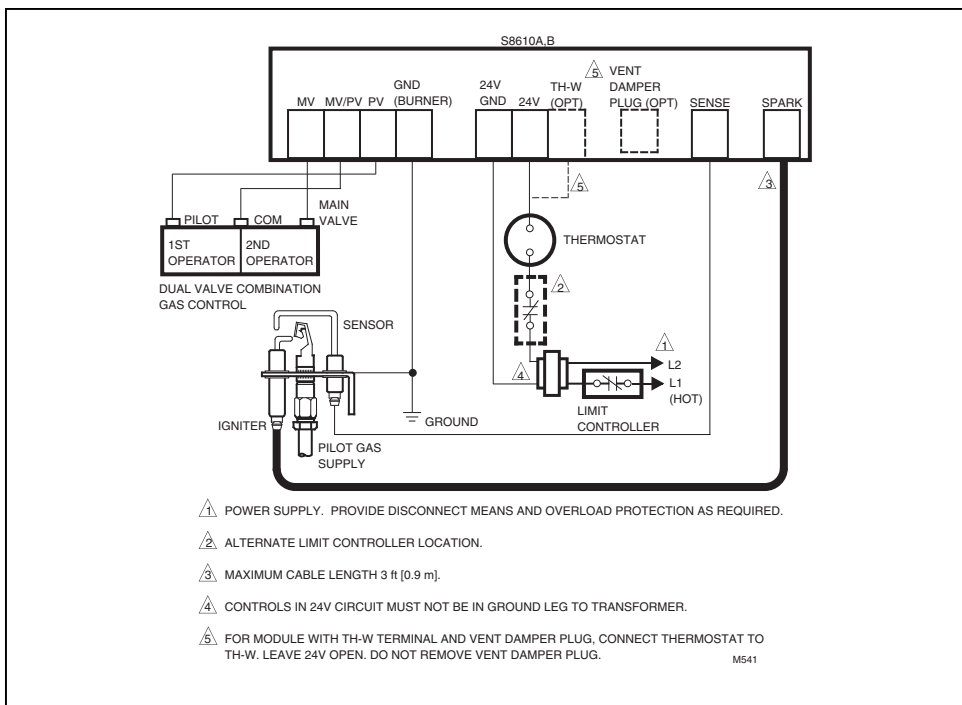

Fig. 4—S8610A,B in a heating system with an atmospheric burner.
- Figs. 4 and 5 show S8610A,B with separate sensor and igniter, with and without the D80D Vent Damper.
- Figs. 6 through 11 show S8610F,H and S8670D in a variety of systems with alternate connections for modules with vent damper plug. Remember, however, that a vent damper should not be used in an fan-assisted combustion system or an LP gas system and that the vent damper plug must not be removed except to connect the module to a D80D with the plug-in cable. S8610A,B can be substituted in these drawings by simply connecting the igniter and sensor as shown in Figs. 4 and 5.